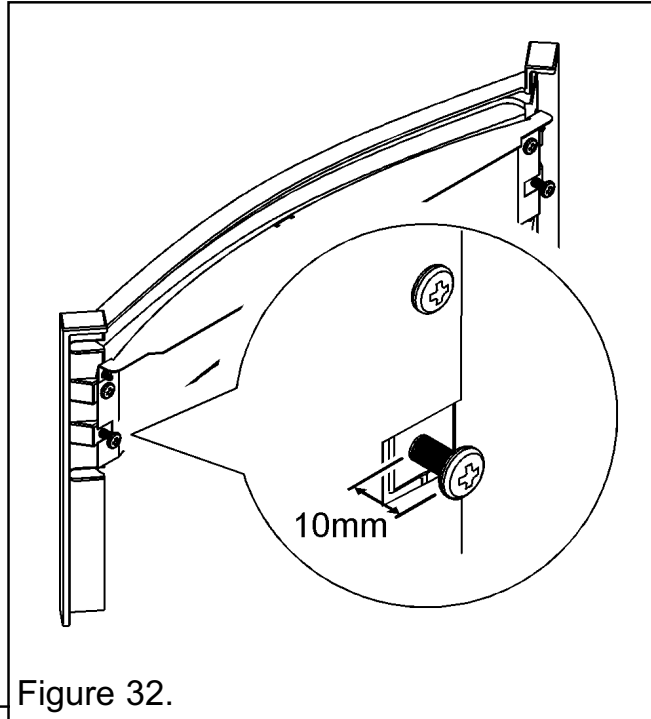

Figure 32.
2. The rear of the fire front may be fitted with hanging screws or they may be supplied in the fire front packaging. Where they are not already fitted insert them into the lower holes on both sides of the firefront. The distance between the firefront and the underside of the screw heads should be approximately 10mm. The screws can be adjusted to obtain the required fit (See figure 32).